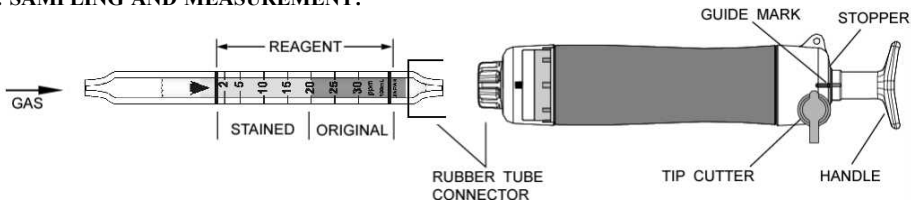

Fig.1
- ② Insert the detector tube into the aspirating pump securely as shown in Fig.1. (Arrow mark shall point to the pump.)
- ③ Align the guide marks on the shaft and stopper of the aspirating pump.
- ④ Pull the pump handle at a full stroke until it locks and wait for 1 minute or until the completion of sampling is confirmed with the flow indicator of the pump. (See descriptions about the flow indicator in the instruction manual of the pump.)
- ⑤ On completion of sampling, read the scale at the maximum point of the stained layer.
- ⑥ When the concentration is below the scale range, 2 pump strokes can be used to determine concentrations of 1 to 15 ppm. Then multiply the reading value by 0.5.
① Temperature: Correct the tube reading by following temperature correction table.